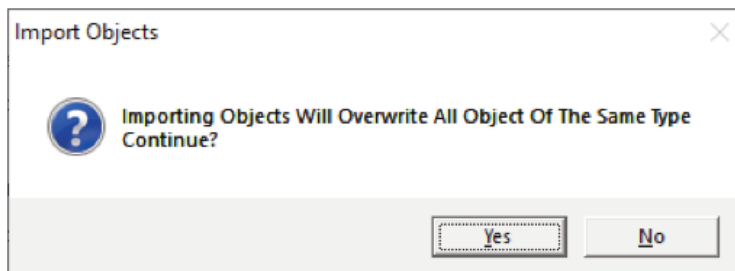

Figure 4.8 Import Objects Warning
3. Click on Import Objects and select "Yes" when prompted to Overwrite any current objects as seen in Figure 4.8.